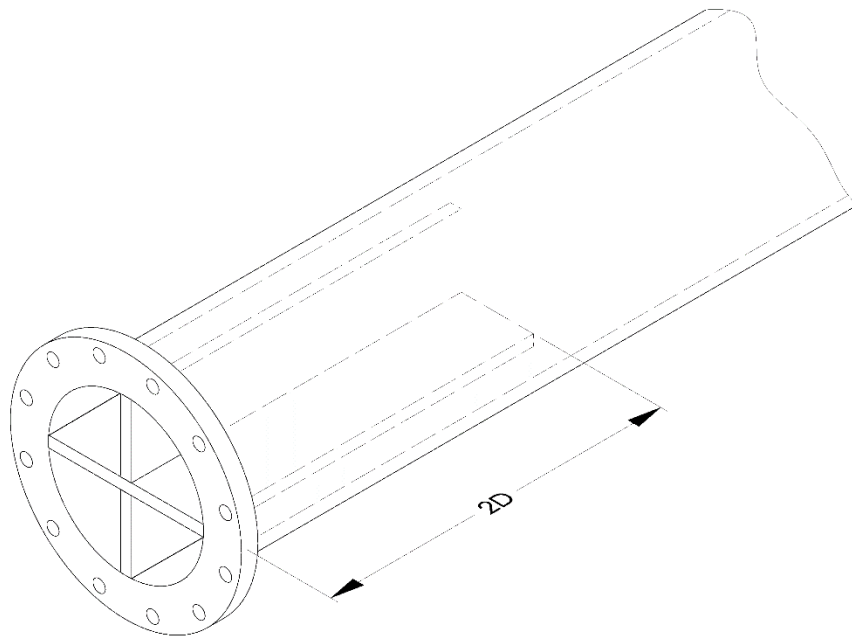

Figure 4: Suction Cruciform
A cruciform flow conditioner, as shown in Figure 4, is recommended. Cruciform suction piping is designed as a flow conditioner which reduces swirl, pulsation, noise, and reduces flow profile distortion. The cruciform should extend (2) pipe diameters in to the suction pipe. Minimum length of suction pipe before the cruciform is as specified in ANSI/HI 9.6.6 for length of pipe prior to the pump inlet. See Annex C for addition source recommendation on suction piping.